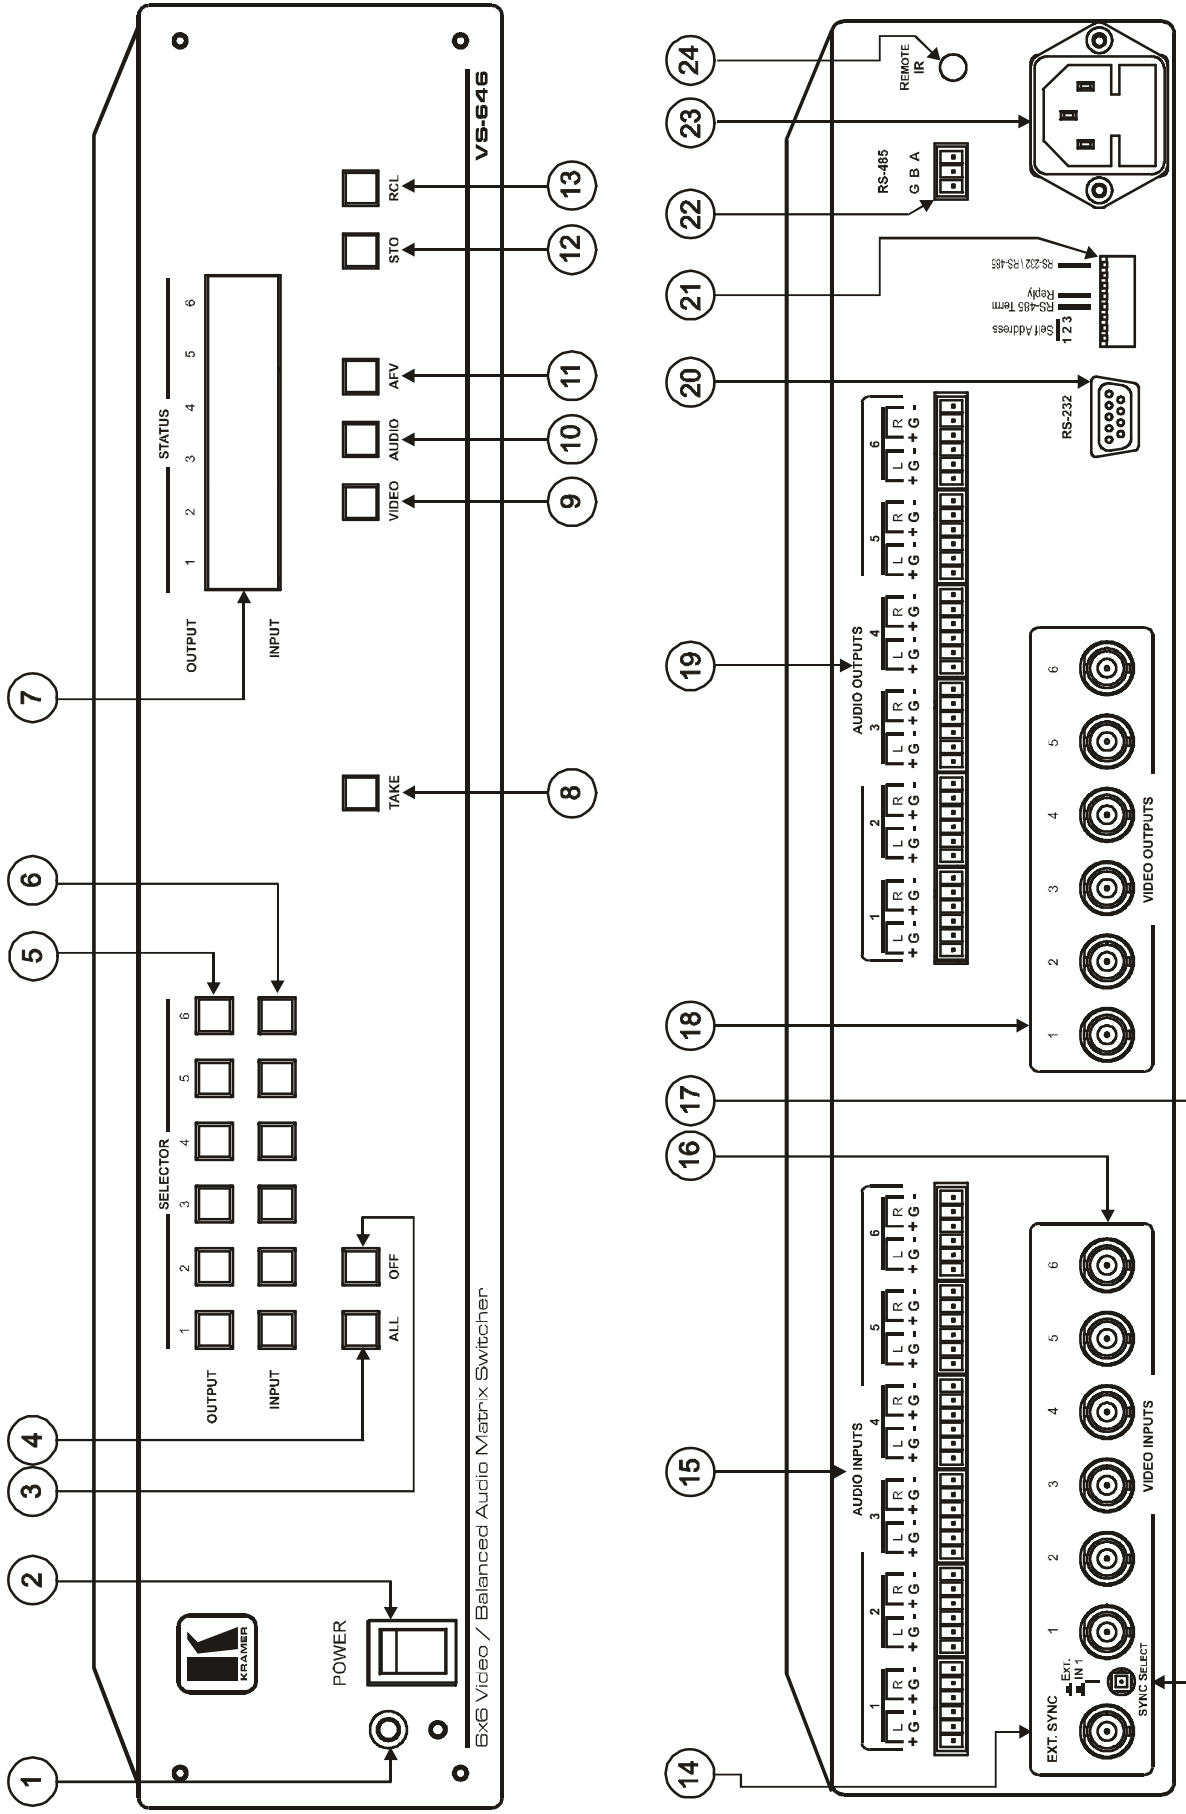

Figure 4: VS-646 6x6 Video/Balanced Audio Matrix Switcher
- **VS-646**, illustrated in *Figure 4*, has 6 inputs and 6 outputs